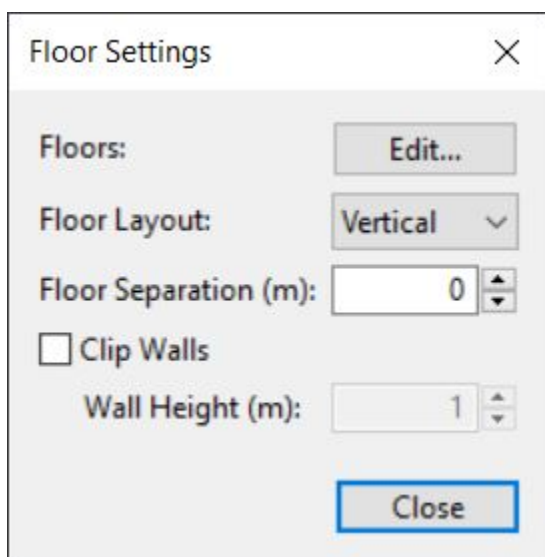

Figure 15. Floor Settings dialog
1. Press the **Edit Floor Settings** button  on the toolbar above navigation view or in the **View** menu, select **Floor Settings**. This will open the **Floor Settings** dialog as shown in Figure 15.